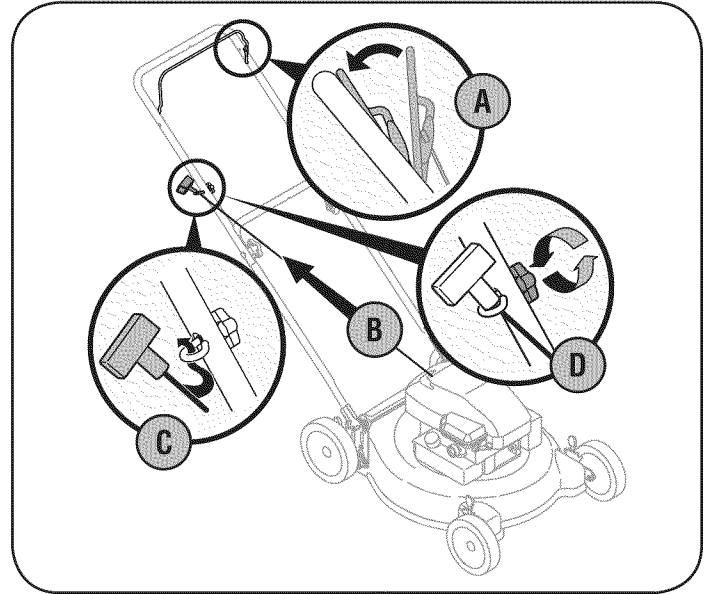

Figure 3
3. The rope guide is attached to the right side of the upper handle. See Figure 3. Loosen the wing nut which secures the rope guide.